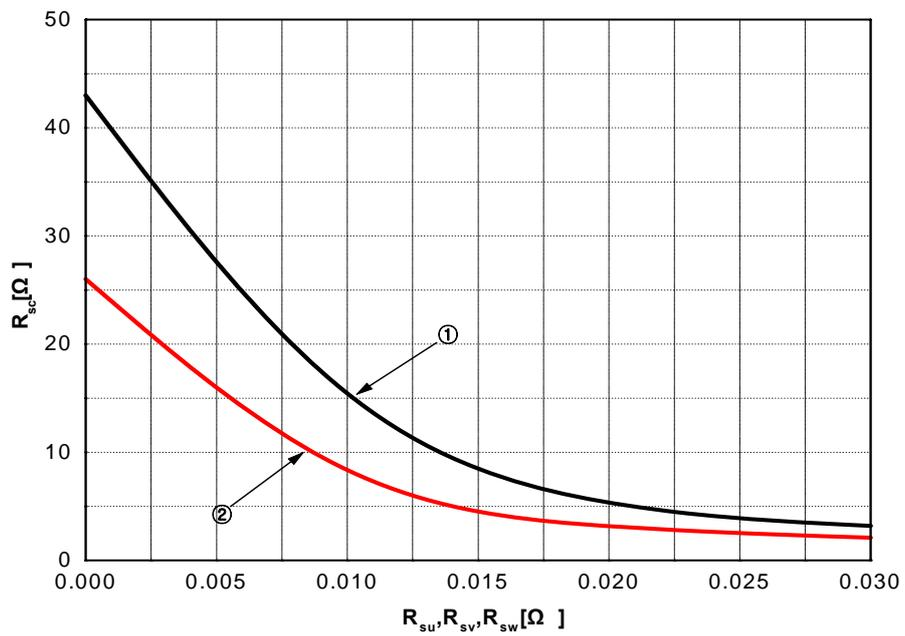

Fig. 6. R_{SC} Variation by change of Shunt Resistors (R_{SU} , R_{SV} , R_{SW}) for Short-Circuit Protection
- Short-circuit current protection is functioning only at the low-sides. It would be recommended that the value of the external sensing resistor (R_{SC}) should be selected around 26 Ω in order to make the SC trip-level of about 100A at the shunt resistors (R_{SU}, R_{SV}, R_{SW}) of 0Ω. For the detailed information about the relationship between the external sensing resistor (R_{SC}) and the shunt resistors (R_{SU}, R_{SV}, R_{SW}), please see Fig. 6.